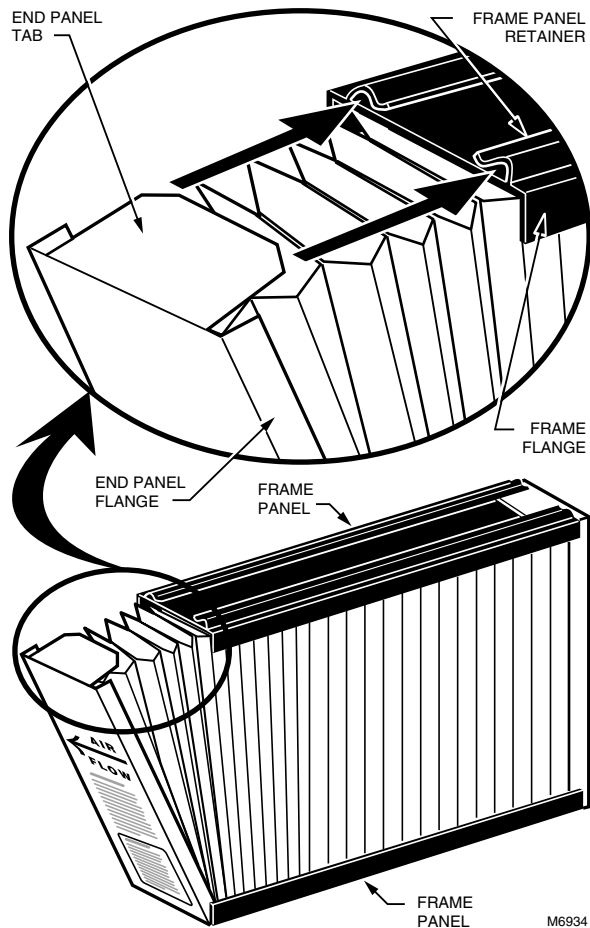

Fig. 14. Assemble Expandapac media filter in frame.
2. Insert one end panel tab into the retainers on the frame. Fold in the end panel flanges and push the tab completely in, making sure the end panel flanges are inside the frame flanges. See Fig. 14.